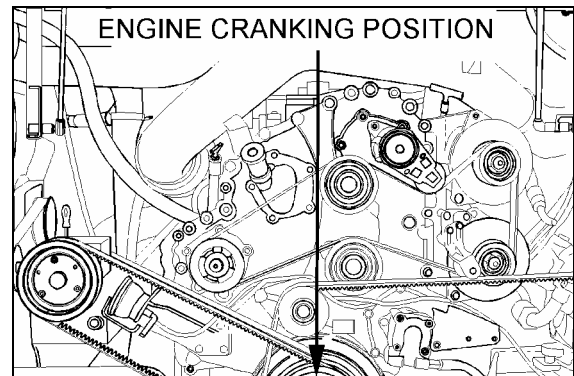

FIGURE 16: ENGINE CRANKING POSITION
14. Remove the access plug from the flywheel housing on the R.H. side below starter. From access plug, remove the 12 converter-to-flexible plate attaching screws. Cranking the engine to gain access to the attaching screws may be done by turning the crankshaft pulley using a suitable adapter (fig. 16).